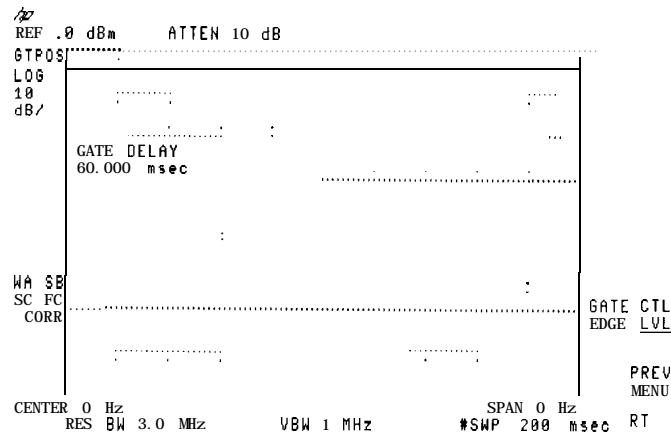

Figure 4-33. Using the Level Gate Control
4. To check the gate control function, press **[SWEEP]**, Gate Control, GATE CTL EDGE LVL so that LVL (level) is underlined (see Figure 4-33).